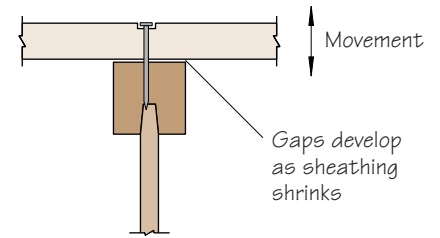

Figure 9
- A. Floor sheathing that gets excessively wet during construction** may swell and shrink later after drying out. The shrinking may leave a gap under the head of the nail allowing the sheathing to move when stepped upon, resulting in a squeak (Figure 9).